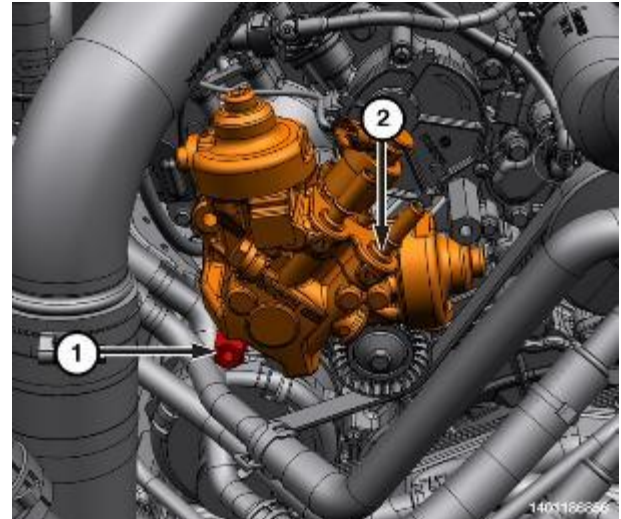

Figure 174 – HPFP Bolt
44. Install the HPFP (2) and hand tighten the bolt (1) (Figure 174).
46. Tighten the bolts (1) that secure the high-pressure pump to 25 N·m (18 Ft. Lbs.).